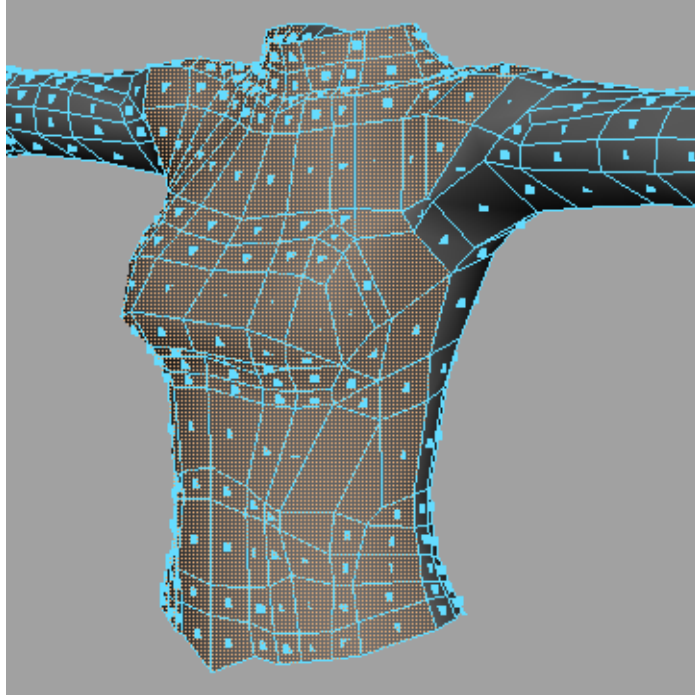

FIGURE 2-22. Front polygon faces are selected
- 1 Select the front polygon faces of bodyGeo (Figure 2-22)